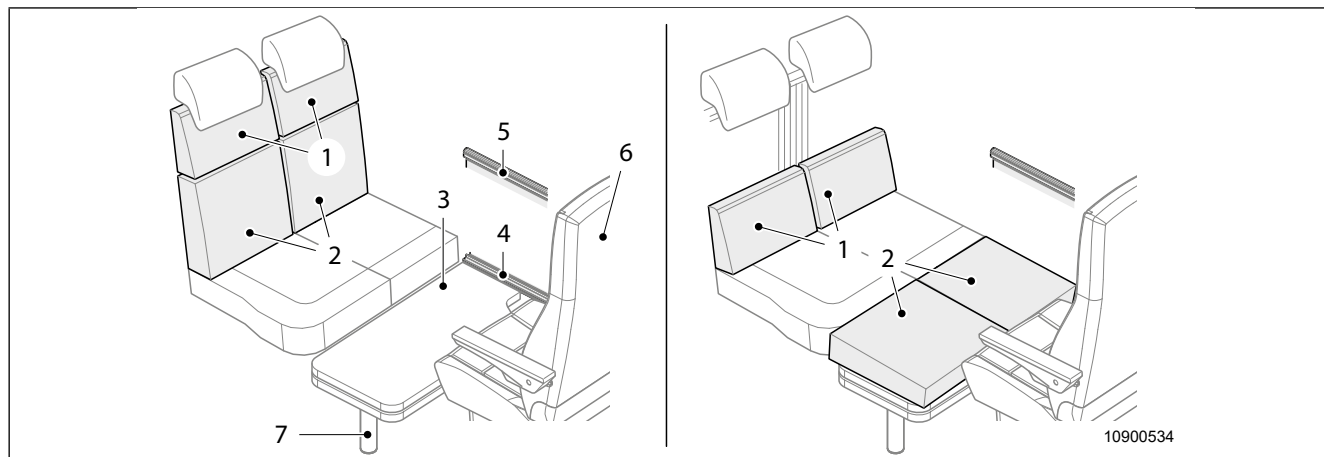

Fig. 31 Conversion of an extra bed
1. Turn the driver's seat (Fig. 31, item 6). The backrest should face the windscreen.
3. Lift the table top (Fig. 31, item 3) on the right-hand side and unhook it from the upper guide rail (Fig. 31, item 5).
4. Swivelling hook-in table: Remove the lower part of the table's leg (Fig. 31, item 7).
5. With the right-hand side of the table top lifted, hook the table top into the lower guide rail (Fig. 31, item 4).
7. Remove the back cushions (Fig. 31, item 1 and 2) from the seat bench and distribute.
8. Attach the upper parts of the back cushions (Fig. 31, item 1) to the frame of the backrest.
9. Place the lower parts of the back cushions (Fig. 31, item 2) on the table.
9. Remove the back cushions (Fig. 31, item 1 and 2) from the seat bench and distribute.
10. Attach the upper parts of the back cushions (Fig. 31, item 1) to the frame of the backrest.
11. Place the lower parts of the back cushions (Fig. 31, item 2) on the table.